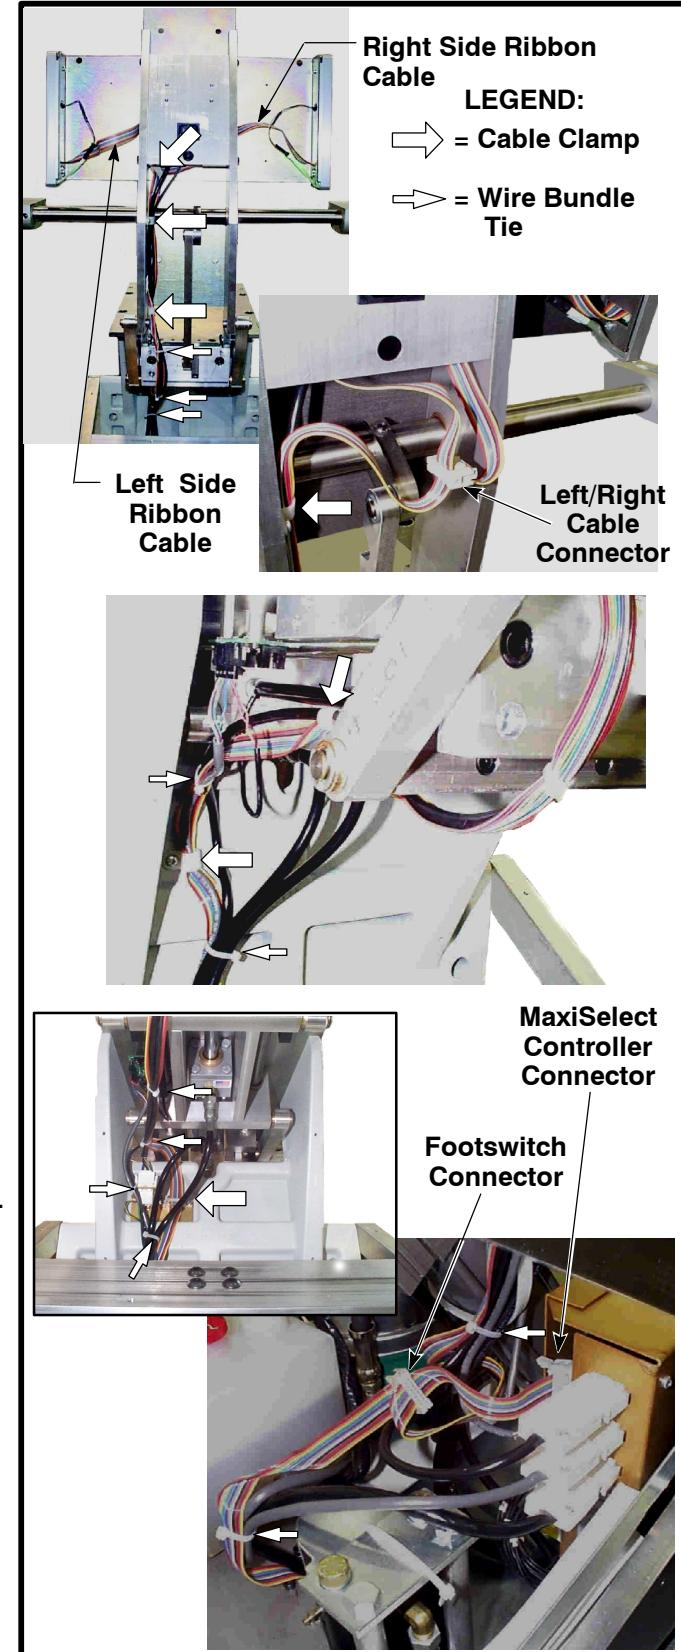

Figure 4-5. Replacing the Ribbon Cable
2. **Replacing Ribbon Cable:** Once it has been determined that the left side Ribbon Cable is faulty, it should be removed and replaced with a new one. Refer to Figure 4-5 and proceed as follows.